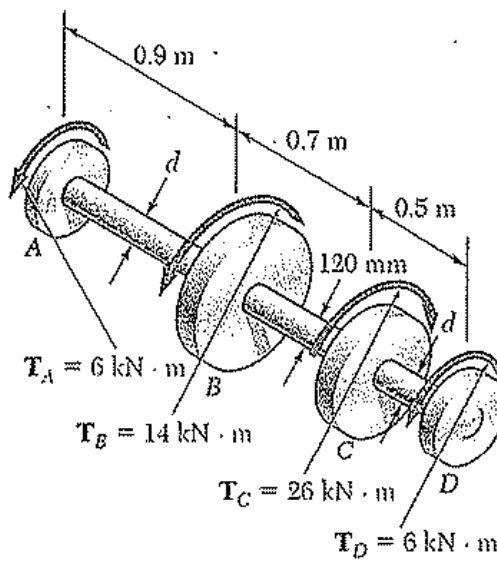

Figure 5.1
- a) Shaft BC shown in Figure 5.1 is hollow with inner and outer diameters of 90 mm and 120 mm respectively. Shafts AB and CD are solid and diameter d . For the loading shown, determine: